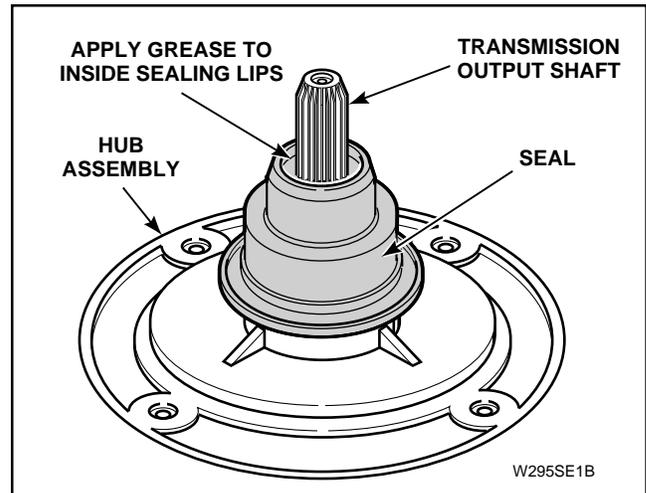

Figure 28
- l. Lubricate new seal with liquid soap or soapy water to aid in assembly of seal onto hub, *Figure 28*.
- m. Apply a small amount of supplied grease, No. 36765P, to inside sealing lips of seal, *Figure 28*.